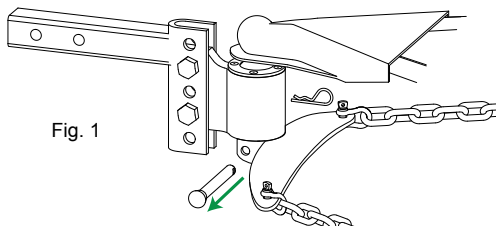

Fig. 1
4. Remove the pin and clip attached to the bottom of the ball and Tension Plate (fig. 1).